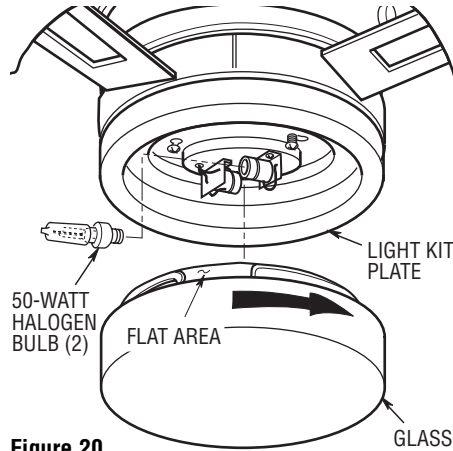

Figure 20
- 7. Screw the two 50-watt mini-candelabra base halogen bulbs (supplied) into the light kit plate sockets (Figure 20). Do not touch the glass bulb; use the porcelain base to screw in the bulb, or wear soft gloves.
- 8. Place the lower glass into the light fitter, aligning the three flat areas on the top flange of the lower glass with the three pins on the inside of the fitter (Figure 20). Then turn the lower glass clockwise until it stops turning.